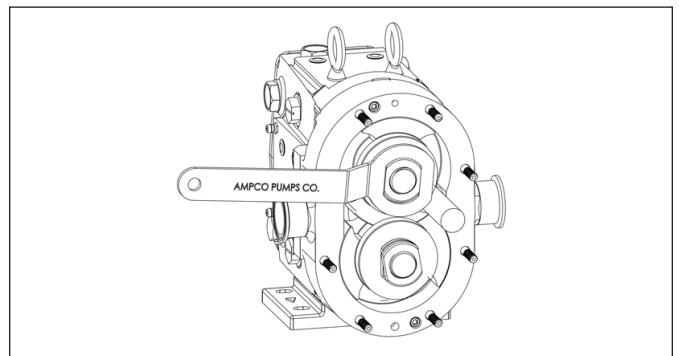

Figure 25. Removing Rotor Jam Nuts
3. Remove the rotor jam nuts using the wrench provided by Ampco (*Figure 25*). Remove one at a time, by striking wrench with a soft mallet to break loose then turning counterclockwise. The nuts are made of a non-galling alloy to prevent from locking up on the shaft.